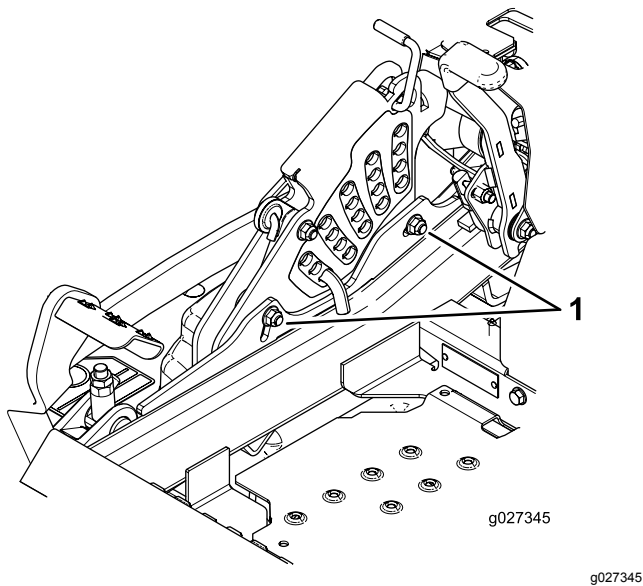

Figure 89
11. To adjust the single-point system, loosen the 2 bolts at the bottom of the height-of-cut plate (Figure 89).
13. Tighten the 2 bolts at the bottom of the height-of-cut plate (Figure 89).